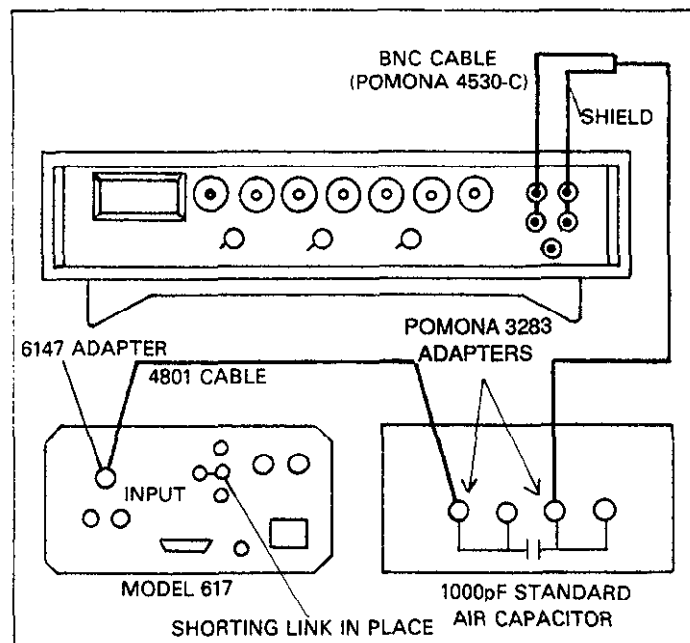

Figure 5-4. Connections for Coulombs Verifications
2. Connect the 1000pF capacitor, the calibrator, and the Model 617 together, as shown in Figure 5-4.